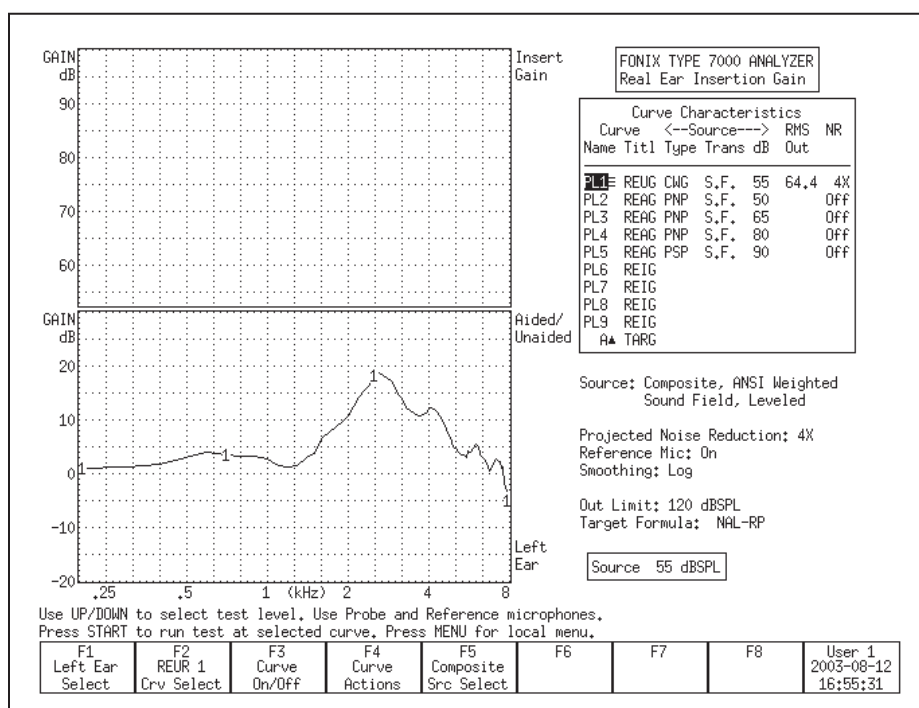

Figure 6.2.3B—Unaided response with correct insertion of the probe tube
5. Insert the probe tube carefully, looking at the composite measurement. At some point, there will be a large dip below the 0 dB level at 6 kHz caused by the standing wave inside the ear. Keep inserting the probe tube until that dip goes away and the unaided response is above 0 dB gain between 6 kHz and 8 kHz. See Figure 6.2.3B.